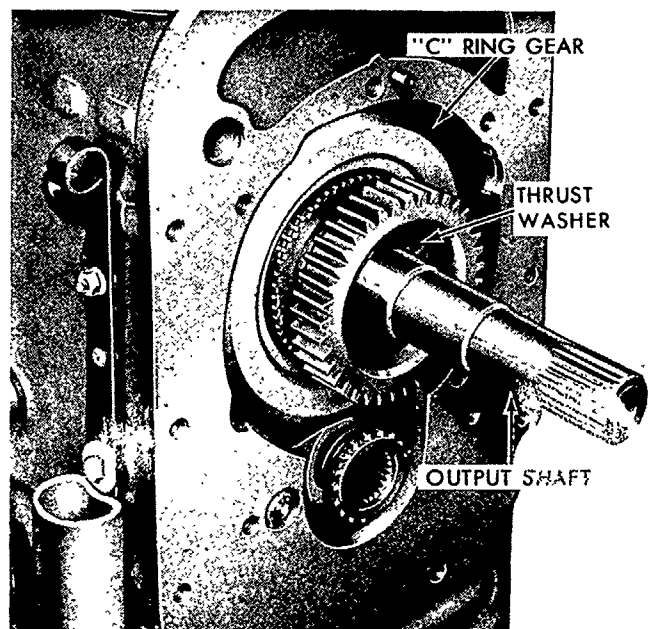

Figure 62
32. Install the "C" ring gear and output shaft as an assembly by aligning the output shaft splines with the splined plates in clutch 3 and by aligning the ring gear with the "C" carrier pinions, Figure 62. Rotate the output shaft back and forth
33. Install the rear selective thrust washer on the end of the output shaft. See Figure 62.